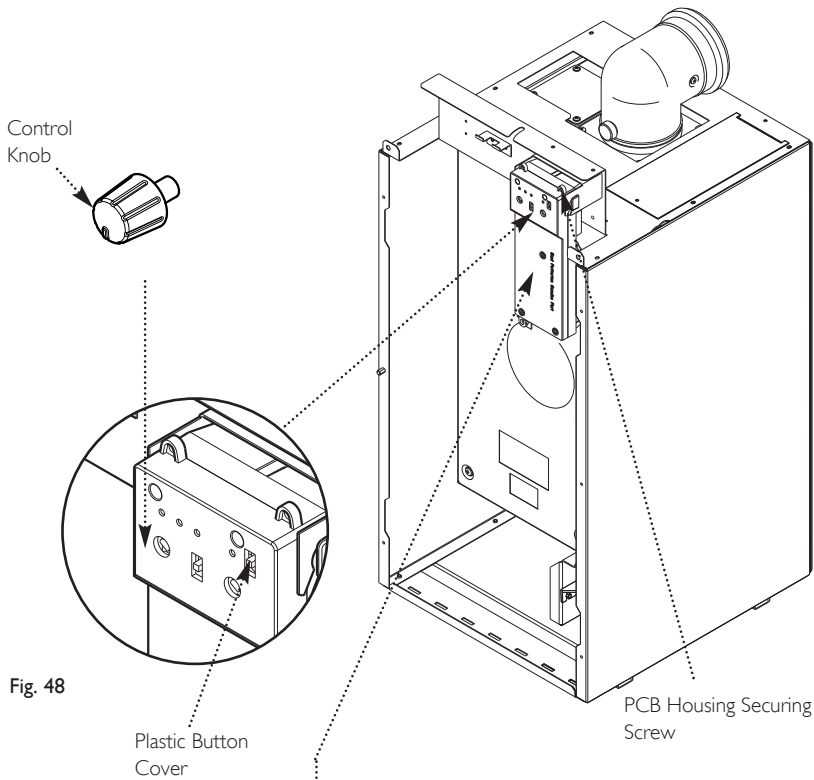

Fig. 48
### 15.6 PCB (Figs. 48 & 49)
1. Pull the control knob off the spindle and remove the plastic button cover. Refit them onto the new PCB (Fig. 48).